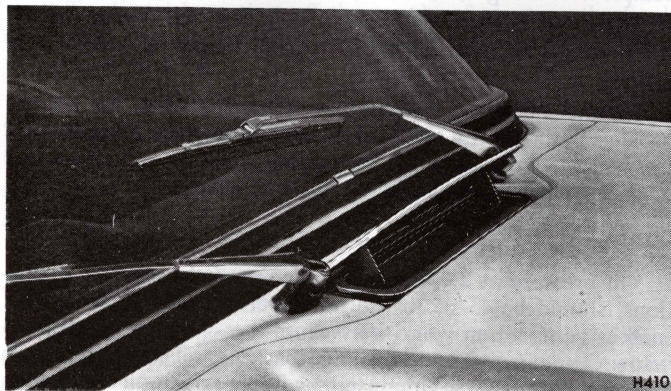

Fig. 3
Fresh air is admitted to the heater duct through the open scuttle ventilator (Fig. 3). This is opened by pulling the lever (20) rearwards and closed by pushing it forwards. When the ventilator is closed, the heater unit recirculates air already in the vehicle.